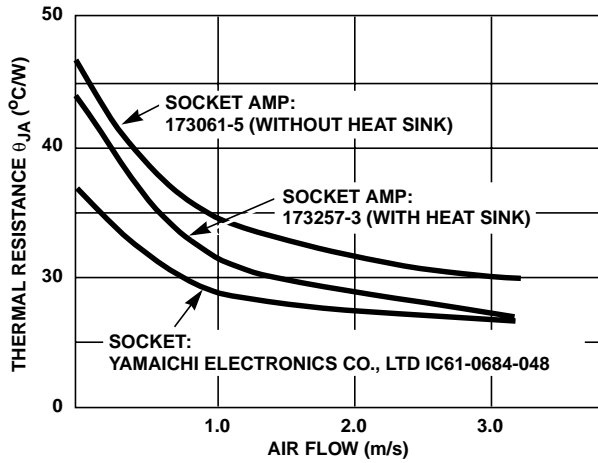

FIGURE 2. THERMAL RESISTANCE OF THE CONVERTER MOUNTED ON A BOARD
5.  $T_A$  is specified in still air and without heat sink. To extend temperature range, appropriate heat management techniques must be employed (See Figure 2).